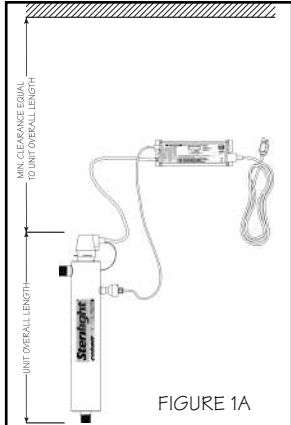
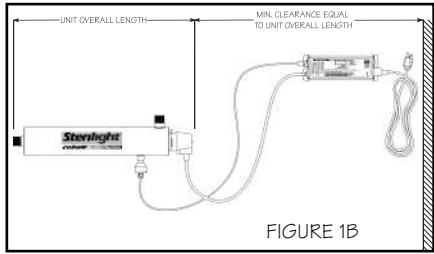

FIGURE 1A
FIGURE 1B
2. Select a suitable location for the disinfection system and its related components. As it is recommended to install a ground fault protected circuit (GFCI), make sure that this is taken into consideration prior to any installation. The system can either be installed vertically (inlet port at the bottom) (Figure 1A), or horizontally (Figure 1B). However, the vertical installation with the lamp connector on top is the most preferred method. When selecting a mounting location, you must also leave enough space to allow for the removal of the UV lamp and/or quartz sleeve (typically leave a space equal to the size